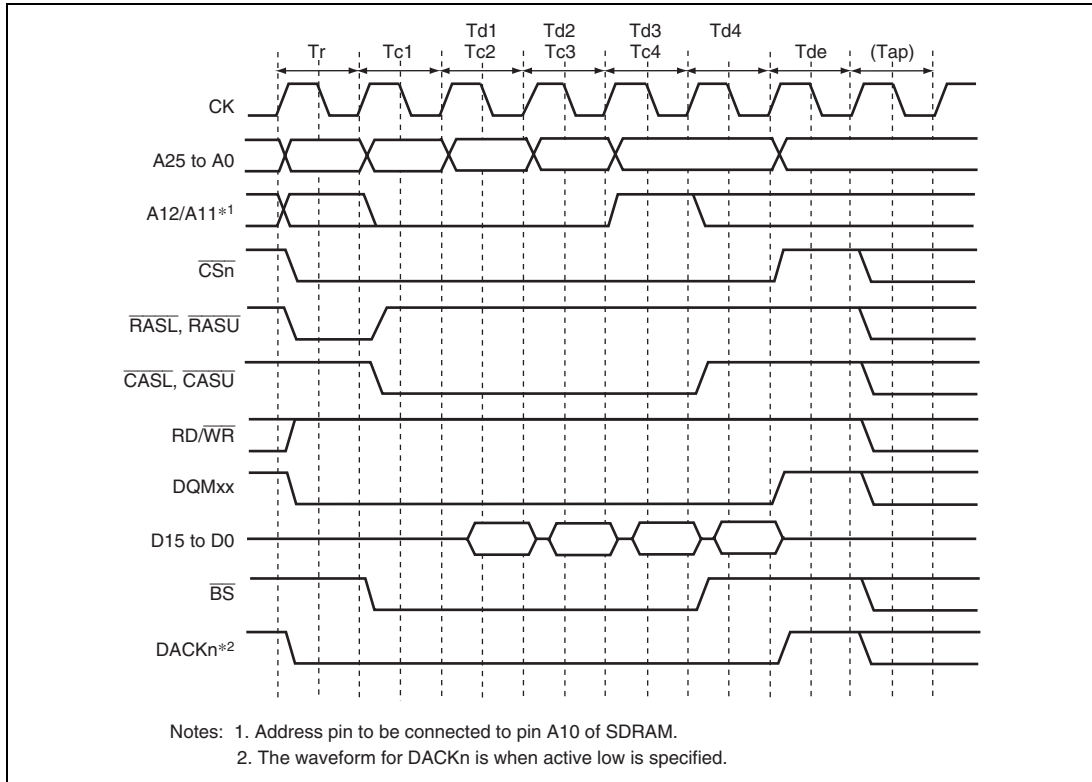

Figure 9.17 Burst Read Basic Timing (CAS Latency 1, Auto-Precharge)
Figures 9.17 and 9.18 show a timing chart in burst read. In burst read, an ACTV command is output in the Tr cycle, the READ command is issued in the Tc1, Tc2, and Tc3 cycles, the READA command is issued in the Tc4 cycle, and the read data is received at the rising edge of the external clock (CK) in the Td1 to Td4 cycles. The Tap cycle is used to wait for the completion of an auto-precharge induced by the READA command in the SDRAM. In the Tap cycle, a new command will not be issued to the same bank. However, access to another CS space or another bank in the same SDRAM space is enabled. The number of Tap cycles is specified by the WTRP1 and WTRP0 bits in CS3WCR.